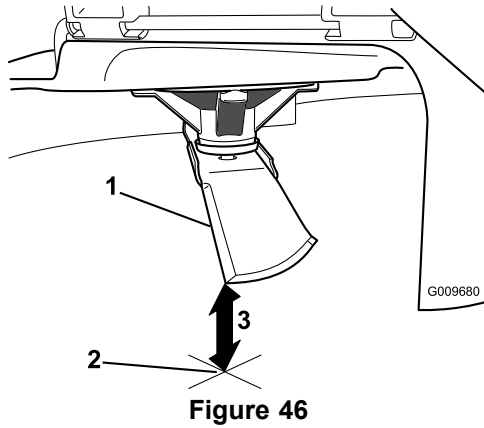

Figure 46
- Measure from the tip of the blade to the flat surface (Figure 46).